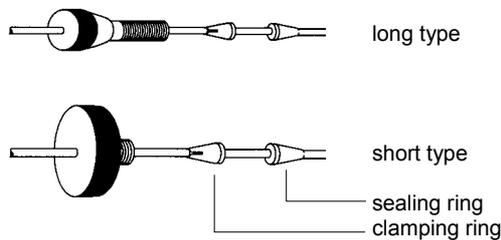

Fig. 21 DYNASEAL Capillary connections
2. Push the bushing, the clamping ring, and the sealing ring onto the capillary (for standard connections just use the respective bushing and clamping ring). Please take care to note the sequence and orientation of the fittings according to Fig. 21